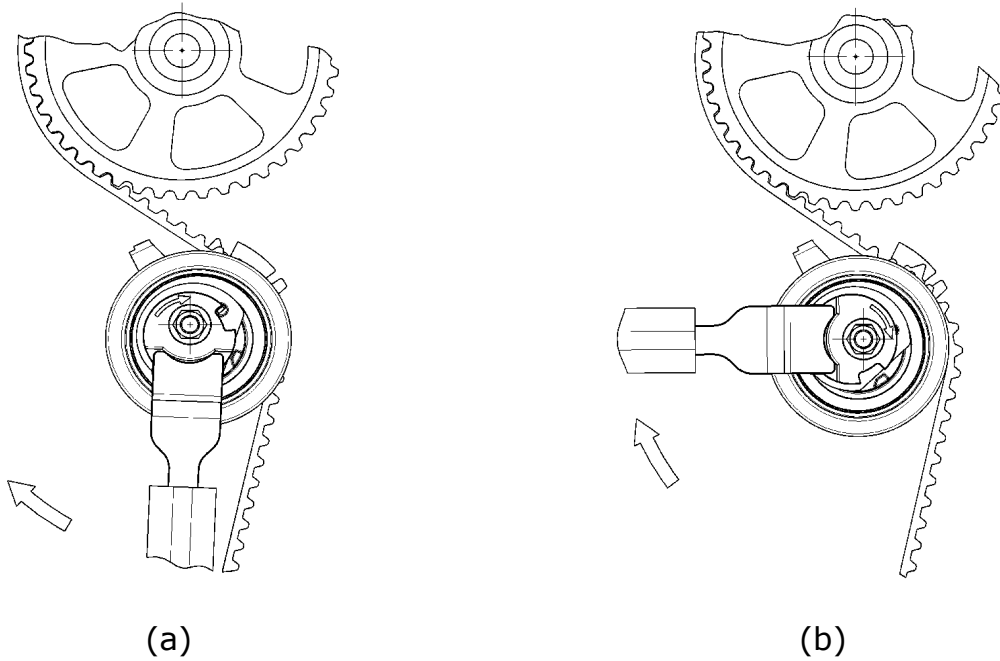

Figure 10: Illustration of the Arm Pointer Moves to Nominal Position
13. Using a 13mm Wrench to prevent the rotation of the flanged mounting nut, turn the Installation Shaft **CLOCKWISE** with the installation tool. The TBT assembly will move against the belt and the Arm Pointer will eventually start to move clockwise, see Fig. 10 (a) and (b).